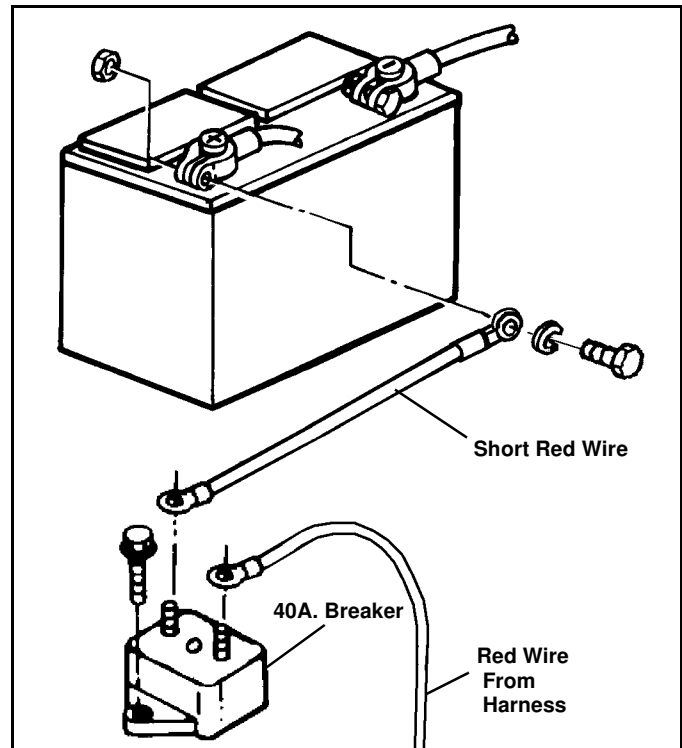

Figure 1-18
8. Locate Short Red Wire (#96102362) with two ring terminals. Attach the small ring terminal to the copper colored post marked BAT on the 40A Breaker (#96102344). Attach the other, large ring terminal to the battery positive terminal. (See Figure 1-18.)